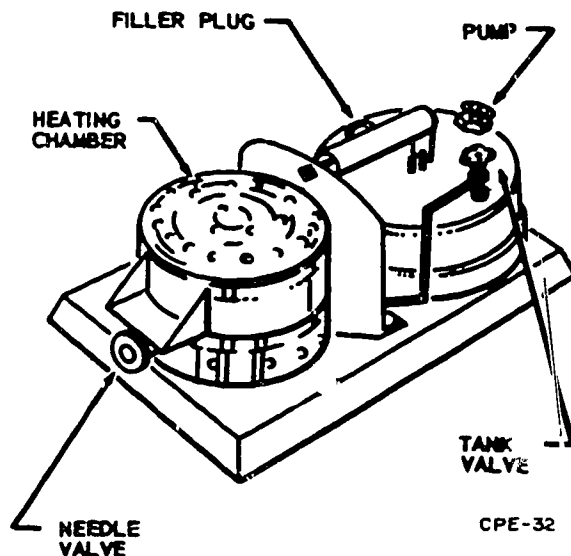

Figure 4-12. Firepot.
**Firepot.** Firepots, like the one shown in figure 4-12, are available in many sizes and types and are used to heat soldering coppers in the shop or in the field. The firepot is equipped with a wind deflector and can be used to heat two coppers at a time. Unleaded (white) gasoline is used for fuel. Air pressure forces the fuel into the generating coil or chamber, which is kept hot enough to vaporize the fuel. Although operating procedures are similar to the operating procedures for a blowtorch, you should carefully follow the instructions for the particular firepot you are using. The firepot requires very little maintenance as long as you use only unleaded gasoline. In figure 4-12, you can see the principal parts of a typical firepot.